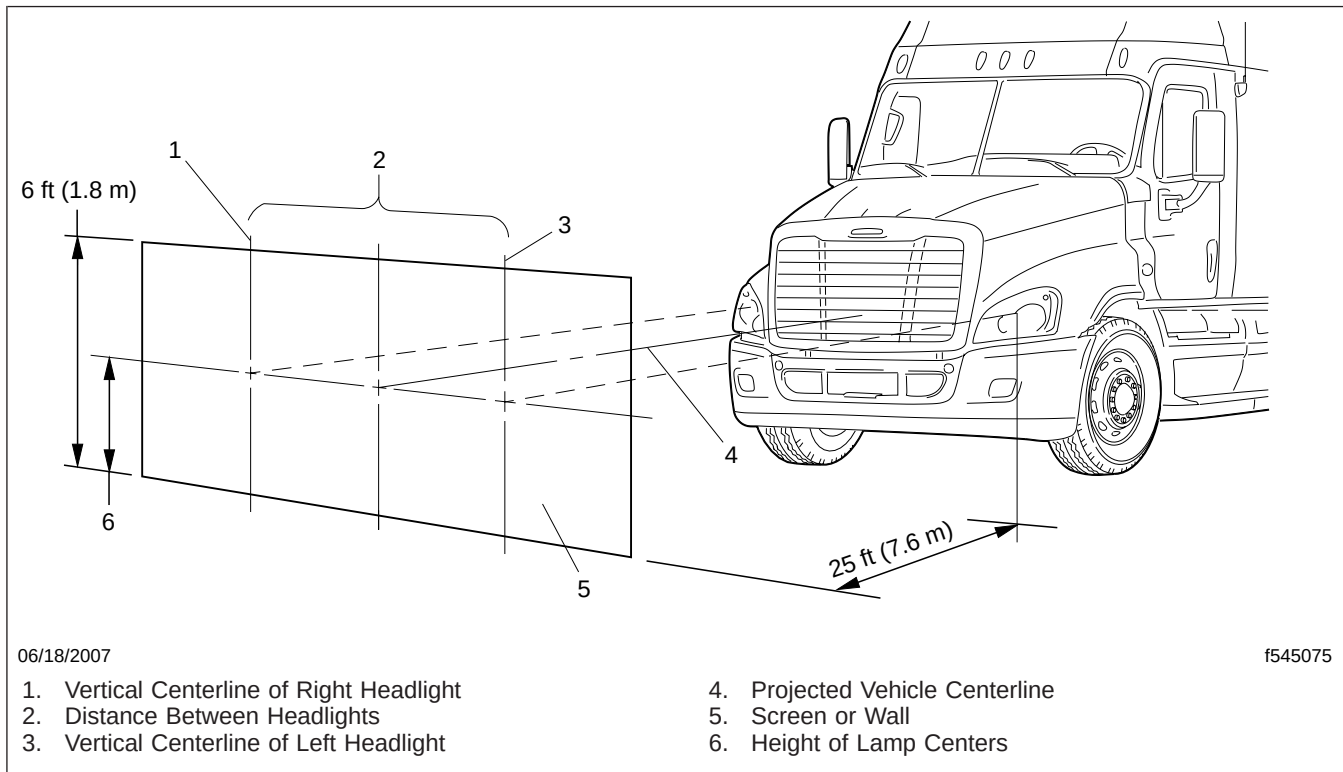

Fig. 1, Headlight Aiming Screen or Wall
1. Park the vehicle on a level surface, 25 ft (7.6 m) from a screen or wall that can be used for aiming the headlights. Shut down the engine, apply the parking brake, and chock the front tires. See Fig. 1.